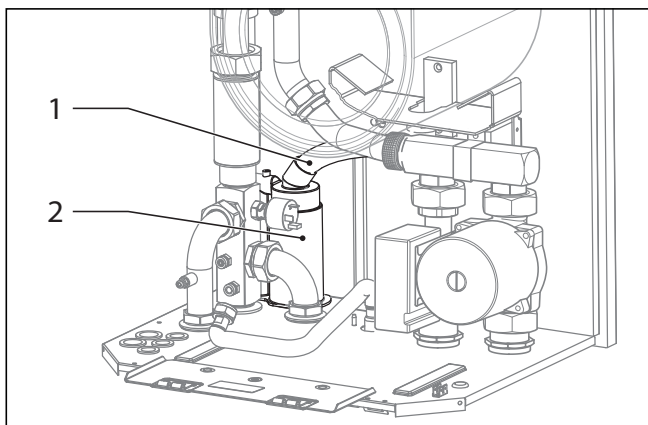

Fig. 7.4 Cleaning the condensate paths (1)
When the primary heat exchanger is cleaned, the condensate path and the siphon should also be cleaned, see chapter 7.2.3. The connection elbow and the corrugated pipe can be used to help you in rinsing out the primary heat exchanger. Remove these from the siphon (2, fig. 7.4) and leave the clips and connection elbow on the primary heat exchanger.
To clean the condensate paths, the condensate hose can be dismantled from the primary heat exchanger (1, fig. 7.4) and the complete condensate siphon (2) dismantled. Then both can be cleaned in a disassembled state. Observe also the siphon installation instructions provided.